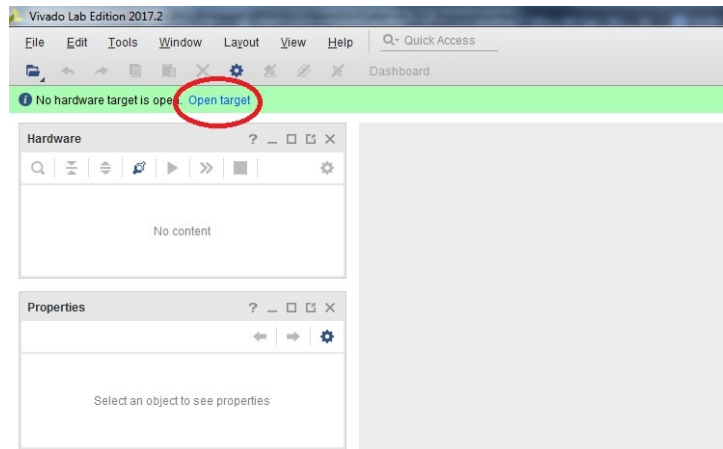

Figure 1.3: Vivado interface.
1. Open the Vivado tools and select "Hardware manager", figure 1.3